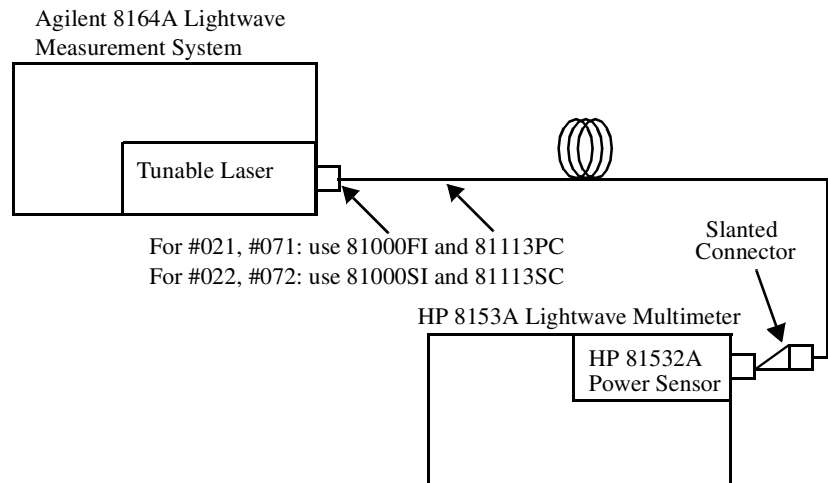

Figure 21 Test Setup for Low Power Linearity Tests
- 1 Set up the equipment as shown in Figure 21.
1 Set up the equipment as shown in Figure 21.